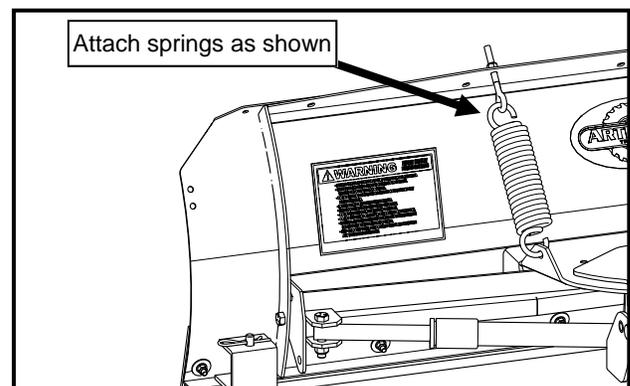

Fig. 2.1—Trip Spring Installation
- 2.1** Locate the two trip springs, two eye bolts, two 3/8-16 Nylon lock hex nuts, and two 3/8" washers. Per Fig 2.1, hook one end of the trip spring through the lower trip spring mount. Hook the eyebolt on the other end of the spring and insert the threaded section up through the hole in the upper spring mount. Install a 3/8" washer, then a 3/8" Nylon lock hex nut on the eyebolt. Repeat above for the second trip spring.